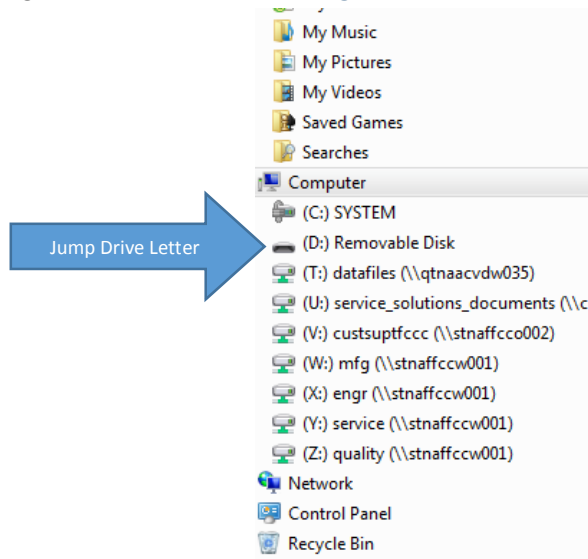

Fig. 1, Drive Letter Assigned to the Flash Drive
1. Install the correct flash drive in an open port on the laptop. Make a note of the drive letter that flash drive was assigned (A:, B:, C:, etc.). See Fig. 1.